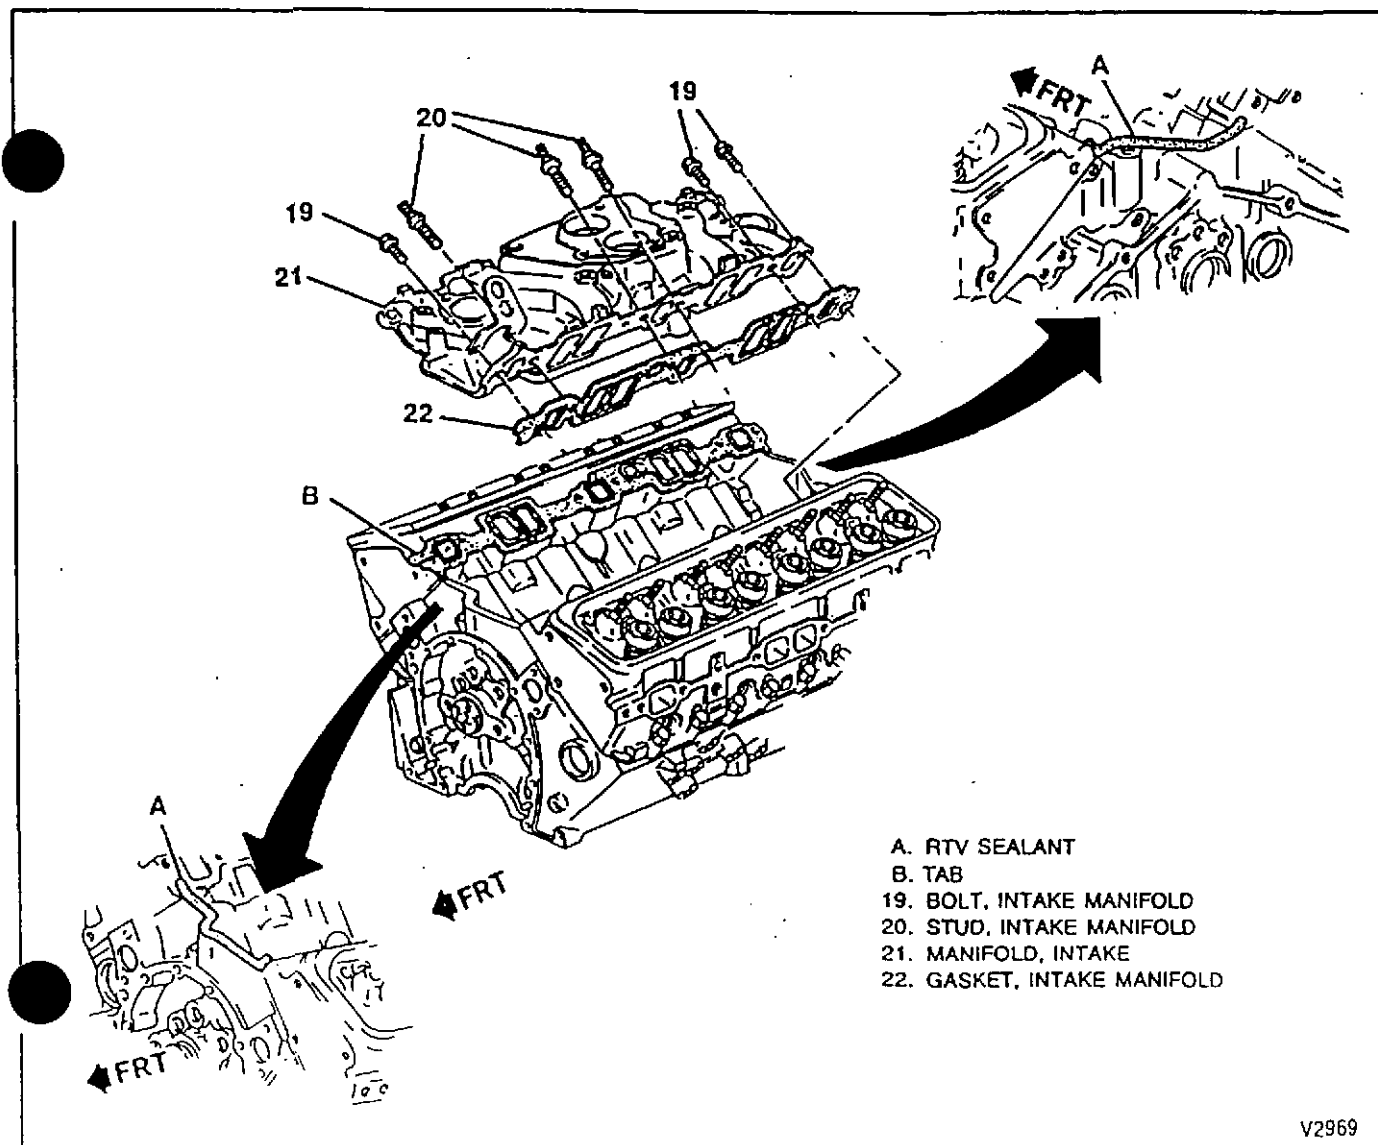

Figure 94—Intake Manifold (5.0L and 5.7L Engines)
Install or Connect (Figures 94 and 95)
1. Gaskets (22) to the cylinder heads.
- Refer to figure 94.
3. Intake manifold (21) to the engine.